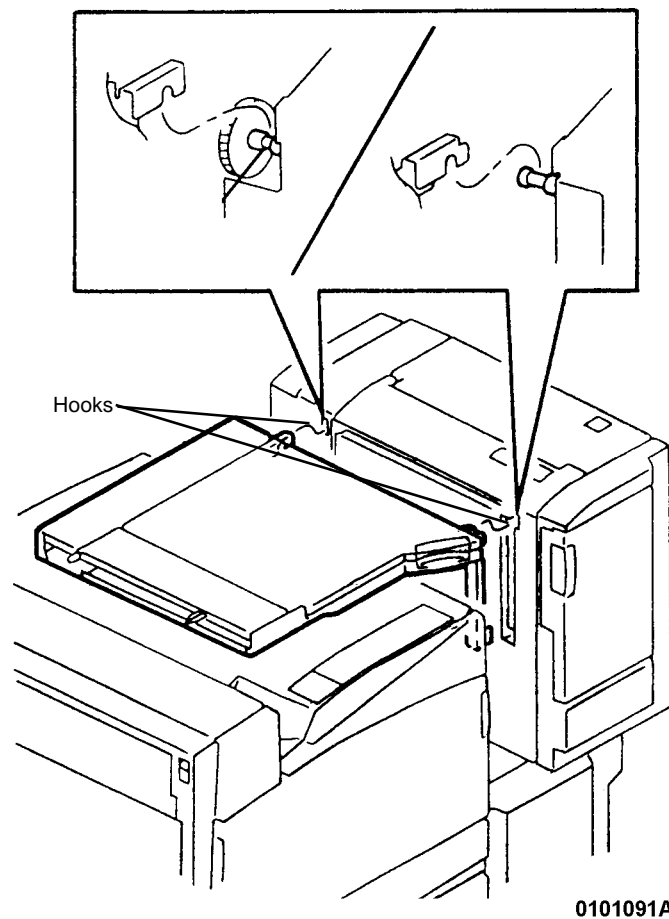

Figure 2 Removing H-Transport
3. Lift input end of H-Transport slightly and then raise to disengage Hook (2) from the Stud on both sides (Figure 2).